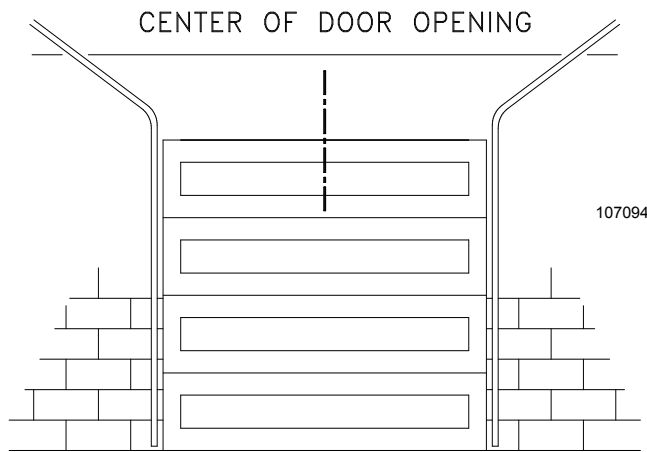

Figure 4
- 1) Locate the center of the door and mark a line on the wall directly above the door. Extend this line approximately 20" up the wall. See Figure 4.